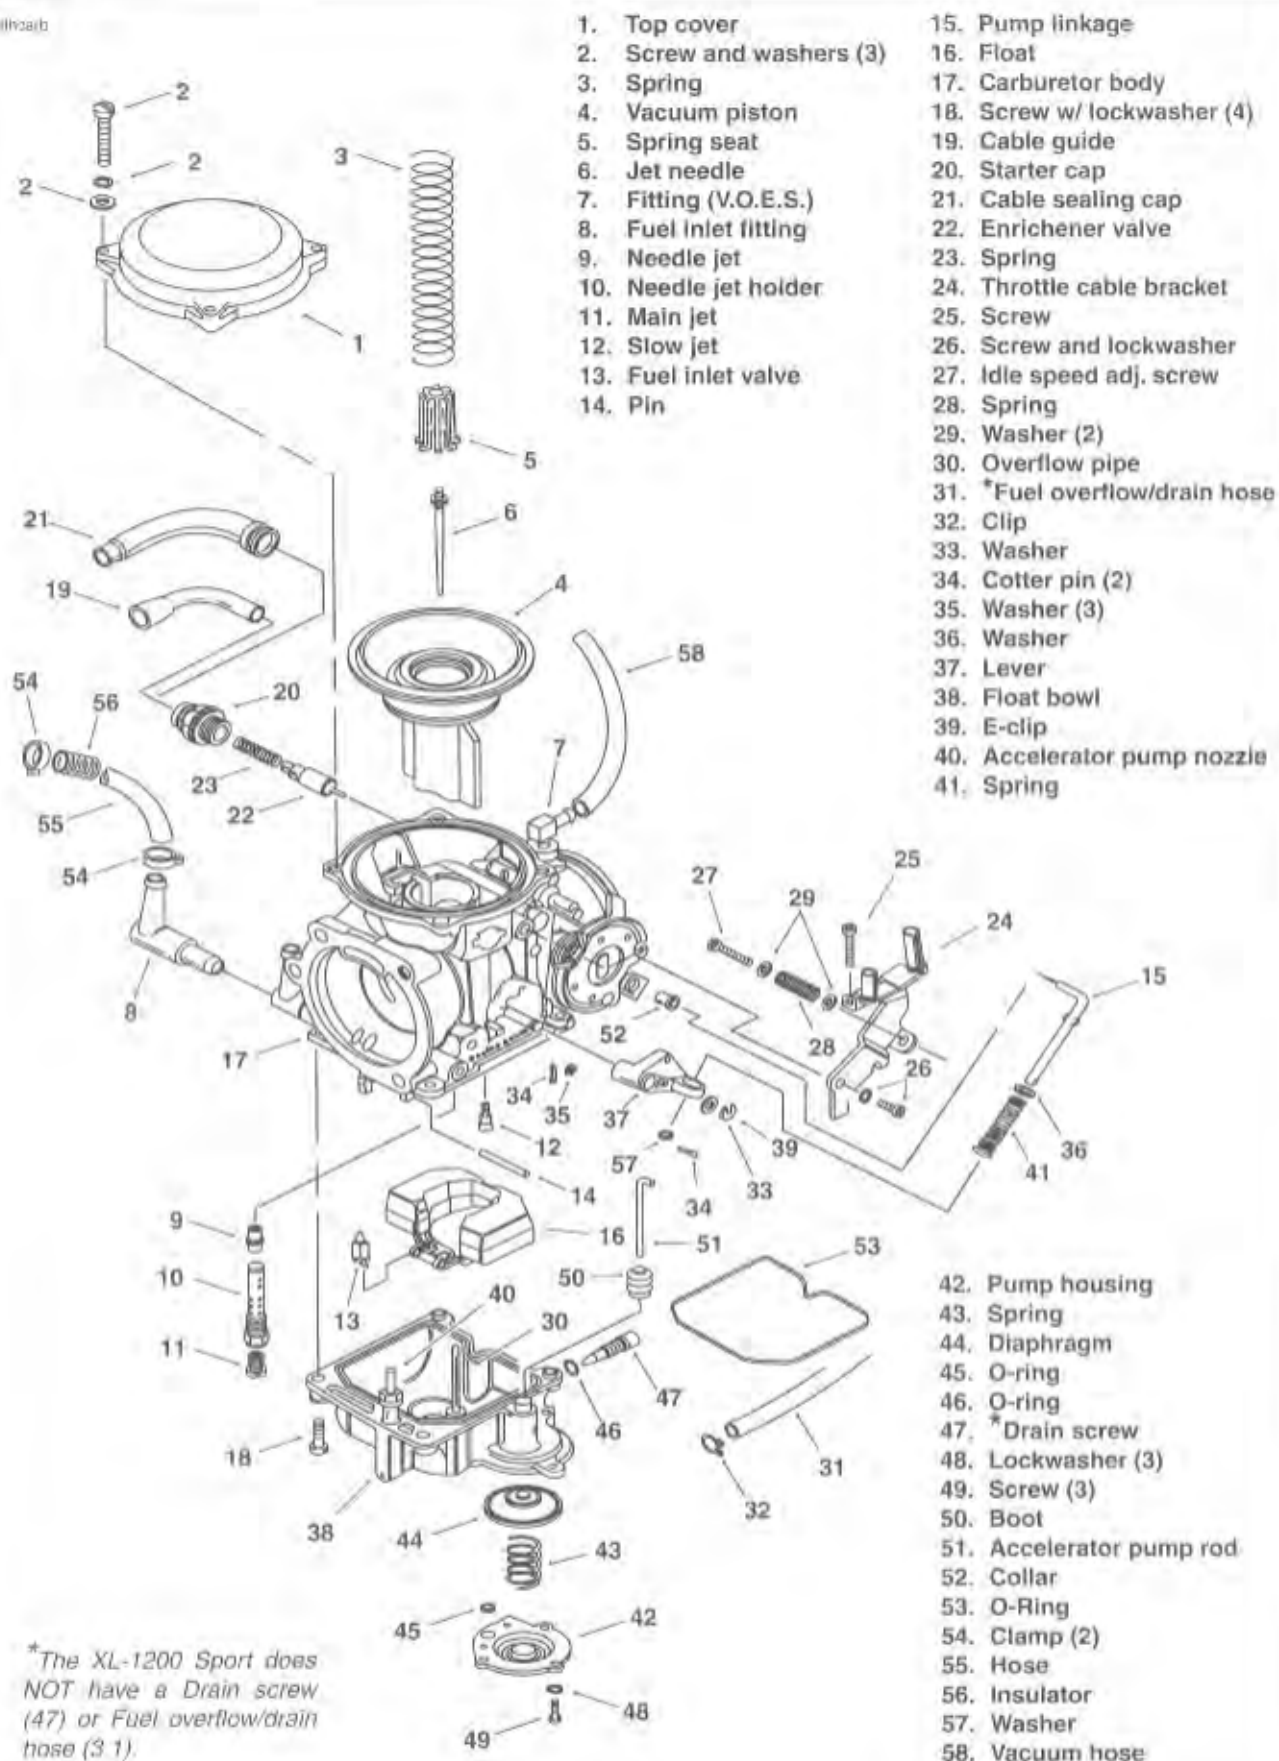

Figure 4-5. Constant-Velocity (CV) Carburetor
OPERATION CHECK – VACUUM PISTON (Figure 4-5)
4. See Figure 4-5. Disconnect fuel overflow/drain hose (31) from fuel overflow fitting (except XL-Sport). Disconnect vacuum hose (58) from V.O.E.S. fitting (7). Disconnect enrichener valve assembly (19, 20, 21, 22, and 23).
DISASSEMBLY (Figure 4-5)
CLEANING, INSPECTION AND REPAIR (Figure 4-5)
ASSEMBLY (Figure 4-5)
10. See Figure 4-5. Connect fuel overflow/drain hose (31) to fuel overflow fitting. Connect vacuum hose (58) to V.O.E.S. fitting (7). Connect enrichener valve assembly (19, 20, 21, 22, 23) to carburetor body.
Carburetor Fuel Overflow / Drain Hose Routing (Figure 4-5)